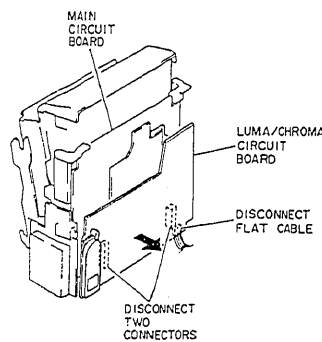

Fig. 2-8
- 1) Remove the luma/chroma circuit board in the direction of the arrow separating from the main circuit board. (The luma/chroma and main circuit boards are connected via board-in type connectors.) (See Fig. 2-8)